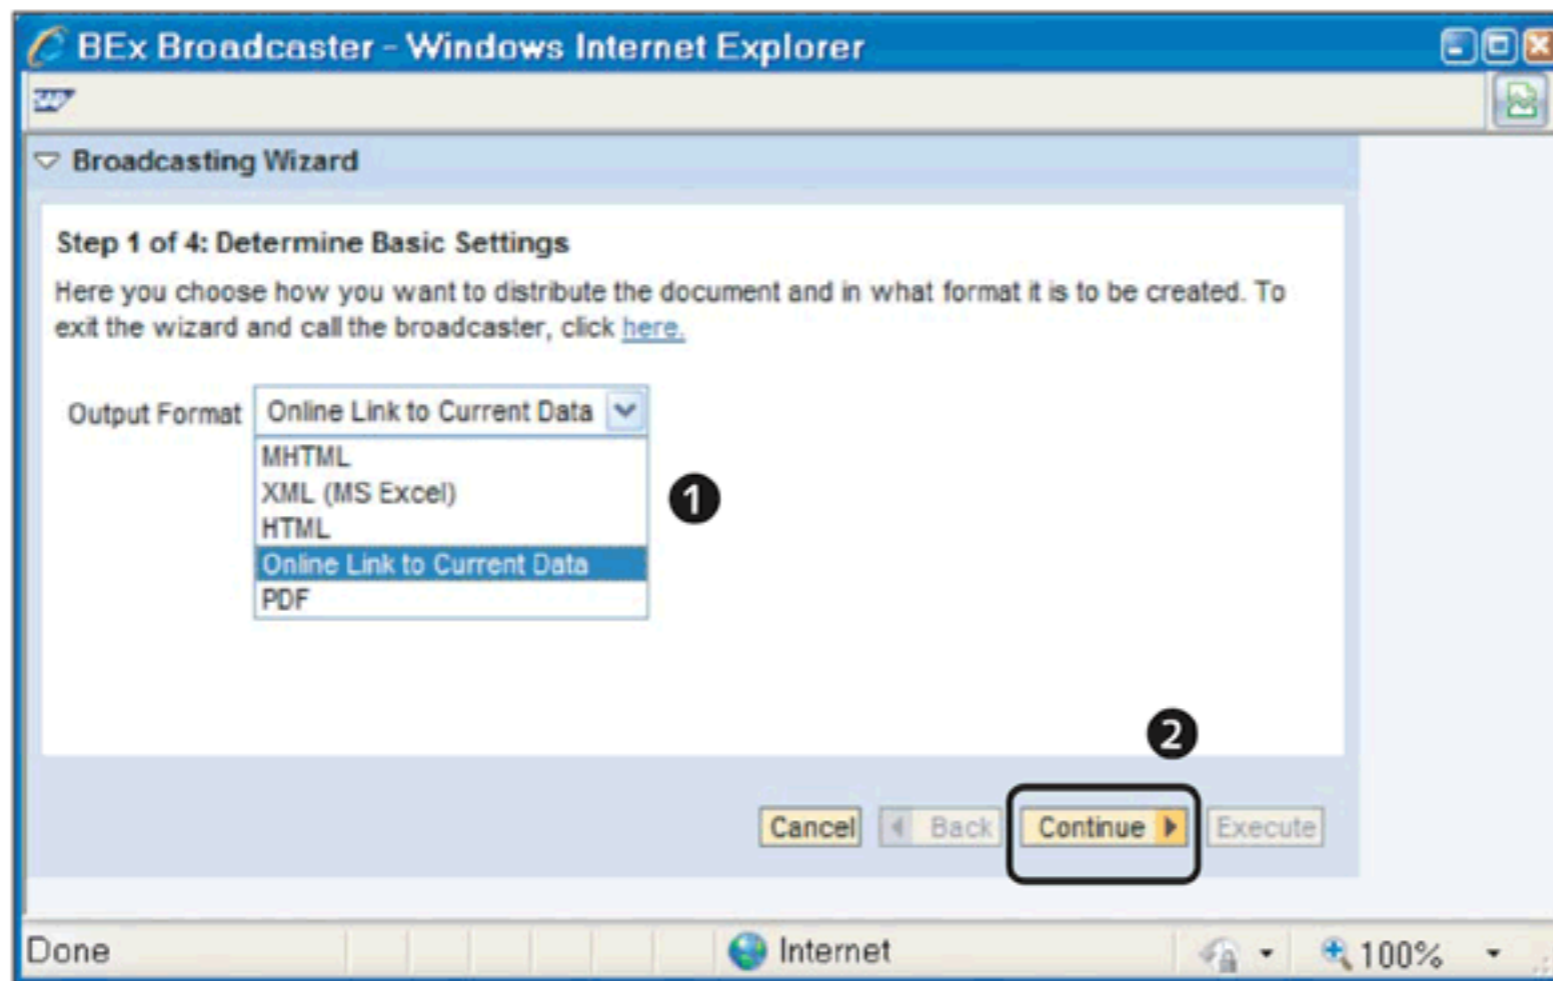

Figure 10.62 BEx Broadcaster: Determine Basic Settings
Select the OUTPUT FORMAT for broadcasting from the options available in the dropdown (❶ of Figure 10.62), and click on the CONTINUE button (❷) to proceed to the next screen.